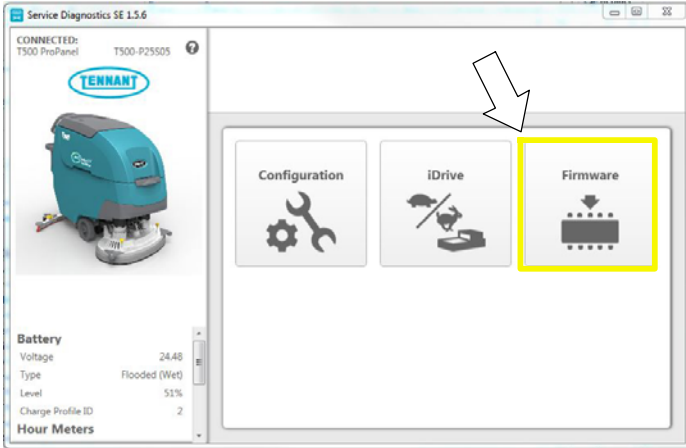

Fig. 18
- Once connected, the home screen will appear (Figure 18). If firmware updates are required, the "Firmware" button will be highlighted in yellow as shown. Press the button to update the machine's firmware.